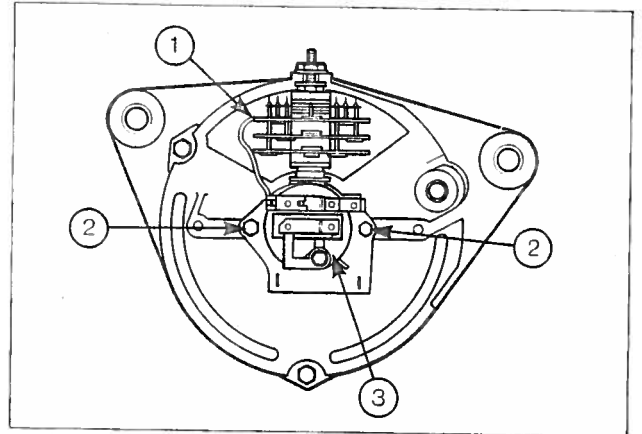

Fig. 38. Removing the brush box
5. Disconnect lead (1) from the rectifier. Remove the two screws (2) and detach the brush box assembly (3) – see Fig. 38.